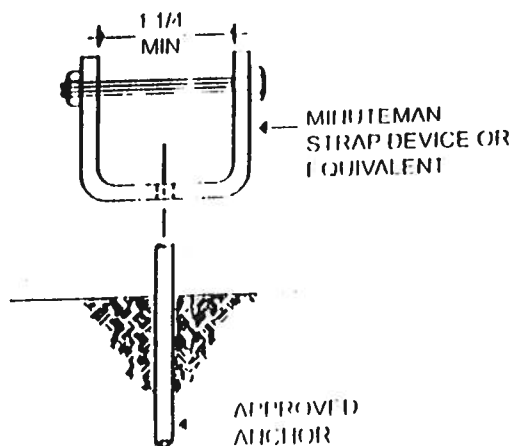

FIG. 5-10
1. Install the ground anchors under exterior corners. The final strap angle and height (H) will be within the limits shown in tables 5 thru 6C.
2. Tie the straps to the frame and ground anchors (See Fig. 5-10). Straps wrapped around the I Beam as
2. Strap end connection devices (See Fig. 5-10).